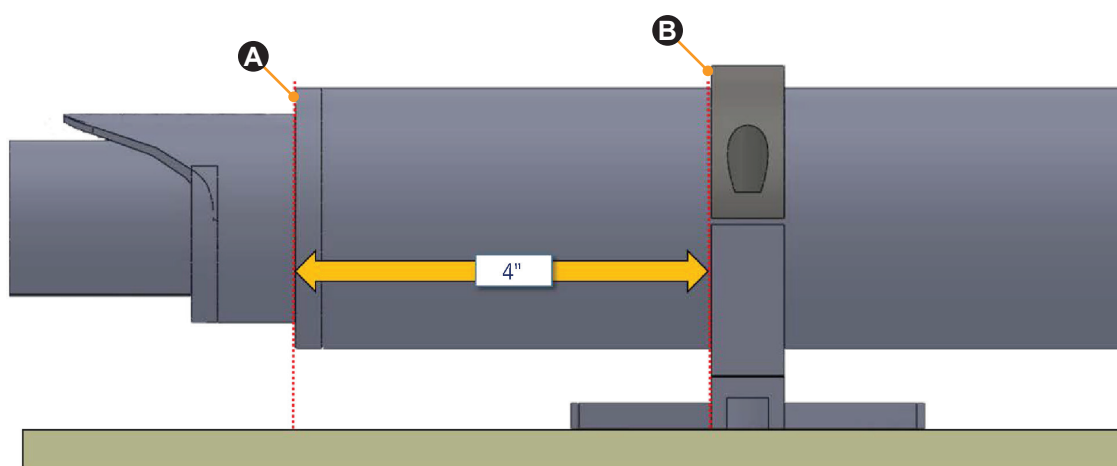

Fig.15
3. Measure from the telescoping end (**Fig.15A**) of the stationary actuator tube to the aft mounting clamp (**Fig.15B**). There should be no less than 4" between the end of the tube and the aft mounting clamp (**Fig.15**).